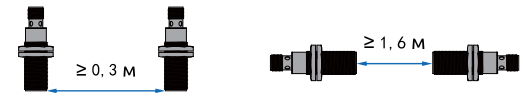

Figure 8 - Allowed distance operation between sensors
- Two nut mounts, included in the supplied set, the installation of the sensor should comply with the following requirements (allowable distances shown in Figure 8 below).